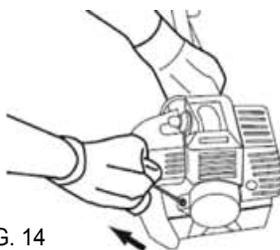

FIG. 14
1. The recoil starter handle (5) is positioned at the back side of the engine unit.
2. Pull on the recoil starter handle (5) to start the engine (Fig. 14).
WARNING: Do not suddenly release the recoil starter handle. Always allow it to return under controlled tension. Do not pull out the recoil starter **BEYOND THE RED COLOR BAND** at the end of the recoil starter (Fig. 14).